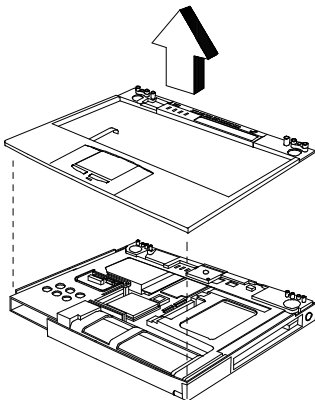

Figure 6-15 Removing/Replacing the Top Cover
3. Remove the two screws on the top and ten screws on the bottom that hold the top cover in place; unsnap and remove the top cover (refer to Figure 6-15).
- ① Remove two screws near display hinge screw holes
- ② Remove 10 screws from bottom of unit (2 circled screws are shorter)